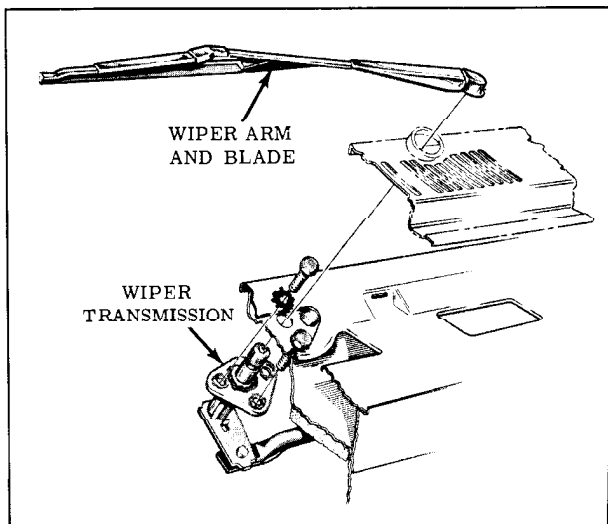

Fig. 13-127 Transmission Attaching Screws
6. Remove 3 transmission attaching bolts from both transmissions and allow transmission assemblies to drop from cowl. (Fig. 13-127)
2. Apply medium bodied sealer around the transmission shaft housing and attaching bolt holes. (Fig. 13-127)